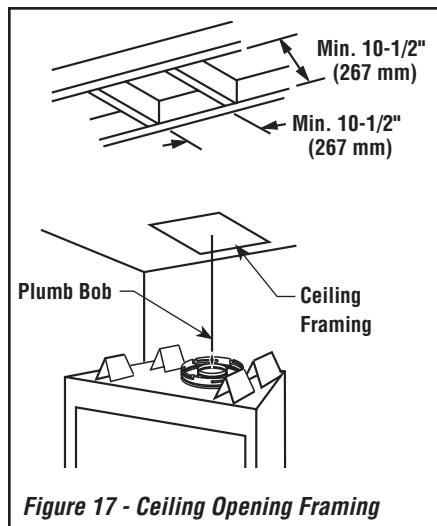

Figure 17 - Ceiling Opening Framing
A. Frame ceiling opening. Use a plumb line from the ceiling above the appliance to locate center of the vertical run. Cut and/or frame an opening, 10-1/2" x 10-1/2" (267 mm x 267 mm) inside dimensions, about this center mark (*Figure 17*).
If the vertical route is to penetrate a ceiling, use plumb line to locate the center above the appliance. Cut and/or frame an opening, 10-1/2" x 10-1/2" (267 mm x 267 mm) inside dimensions, about this center (*refer to Figure 17 on Page 18*).